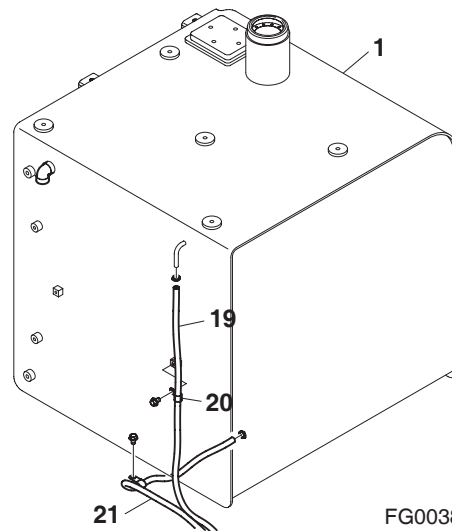

Figure 20
10. Connect as tagged, fuel supply line (21, Figure 20) and fuel return line (19) to fuel tank (1).
11. Install clamp (20, Figure 20) to hold fuel return line (19) to tank (1).